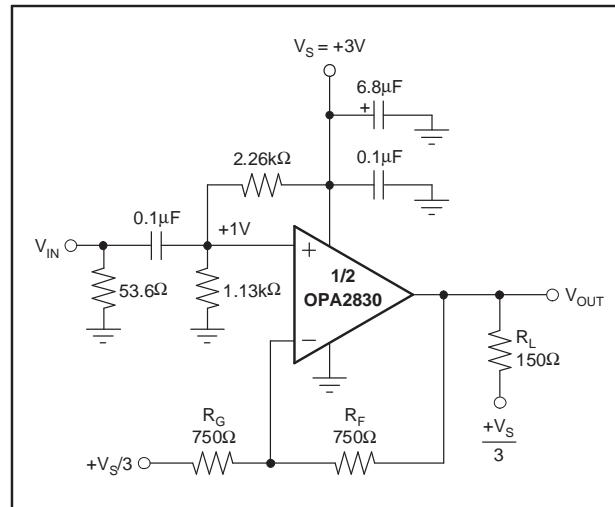
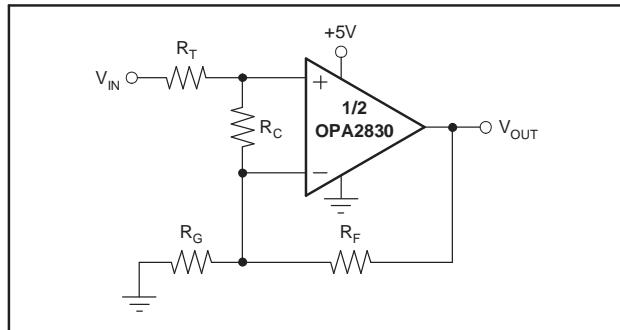

Figure 71. AC-Coupled, G = +2, +3V Single-Supply Specification and Test Circuit
Figure 77. Compensated Noninverting Amplifier
At $T_A = +25^\circ C$, $G = +2V/V$, and $R_L = 150\Omega$ to $V_S/3$, unless otherwise noted (see Figure 71).
At $T_A = +25^\circ\text{C}$, $G = +2\text{V/V}$, and $R_L = 150\Omega$ to $V_S/3$, unless otherwise noted (see Figure 71).
Figure 71 shows the AC-coupled, gain of +2 configuration used for the +3V Specifications and Typical Characteristic Curves. Voltage swings reported in the Electrical Characteristics are taken directly at the input and output pins. For the circuit of Figure 71, the total effective load on the output at high frequencies is $150\Omega \parallel 1500\Omega$. The 1.5kΩ resistors at the noninverting input provide the common-mode bias voltage. Their parallel combination equals the DC resistance at the inverting input (R_F), reducing the DC output offset due to input bias current.
Figure 77 shows a noninverting amplifier that reduces peaking at low gains. The resistor R_C compensates the OPA2830 to have higher Noise Gain (NG), which reduces the AC response peaking (typically 4dB at $G = +1$ without R_C) without changing the DC gain. V_{IN} needs to be a low impedance source, such as an op amp.
Frequency response in a gain of +2 may be modified to achieve exceptional flatness simply by increasing the noise gain to 3. One way to do this, without affecting the +2 signal gain, is to add an $2.55\text{k}\Omega$ resistor across the two inputs, as shown in Figure 77. A similar technique may be used to reduce peaking in unity-gain (voltage follower) applications. For example, by using a 750Ω feedback resistor along with a 750Ω resistor across the two op amp inputs, the voltage follower response will be similar to the gain of +2 response of Figure 71. Further reducing the value of the resistor across the op amp inputs will further dampen the frequency response due to increased noise gain. The OPA2830 exhibits minimal bandwidth reduction going to single-supply (+5V) operation as compared with $\pm 5\text{V}$. This minimal reduction is because the internal bias control circuitry retains nearly constant quiescent current as the total supply voltage between the supply pins is changed.
The criterion for setting this R_S resistor is a maximum bandwidth, flat frequency response at the load. For a gain of +2, the frequency response at the output pin is already slightly peaked without the capacitive load, requiring relatively high values of R_S to flatten the response at the load. Increasing the noise gain will also reduce the peaking (see Figure 77).